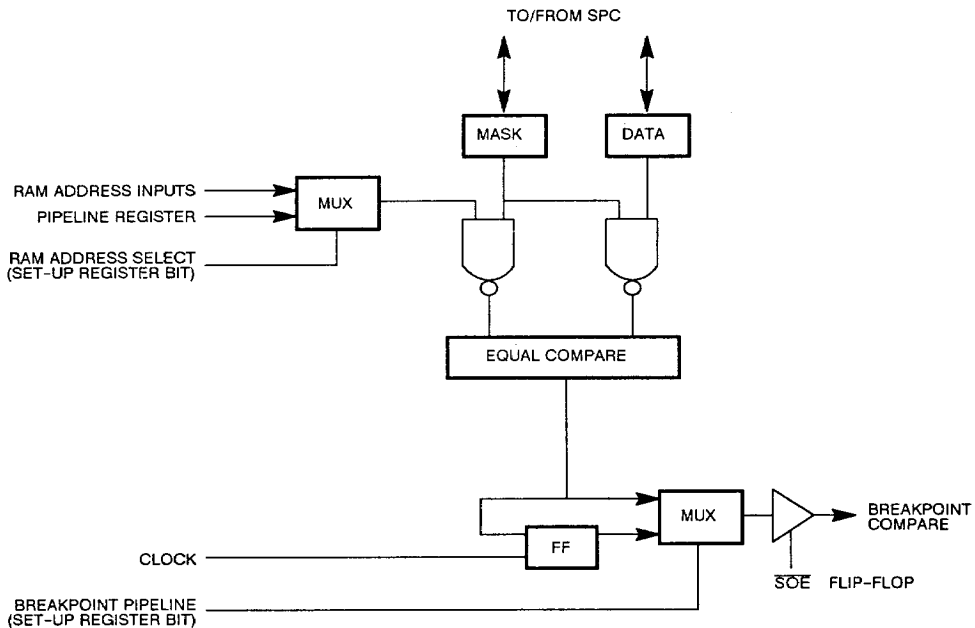

Figure 3. Breakpoint Comparator Logic Block Diagram
The Breakpoint Comparator (BC) provides a masked 16-bit comparison of the various data paths that can be read by the SPC. It consists of an equal-comparator and the Break Data and Mask registers, as shown in Breakpoint Comparator Logic Block Diagram (Figure 3). The BC compares the data from the chip against the data in the Break Data Register and activates the Breakpoint Compare output if the two are equal. The Mask Register enables comparison: if a bit in the Mask Register is a one, comparison is enabled on the corresponding bit in the Break Data Register. If it is zero, the comparison on that bit is disabled: i.e., forced to equal.